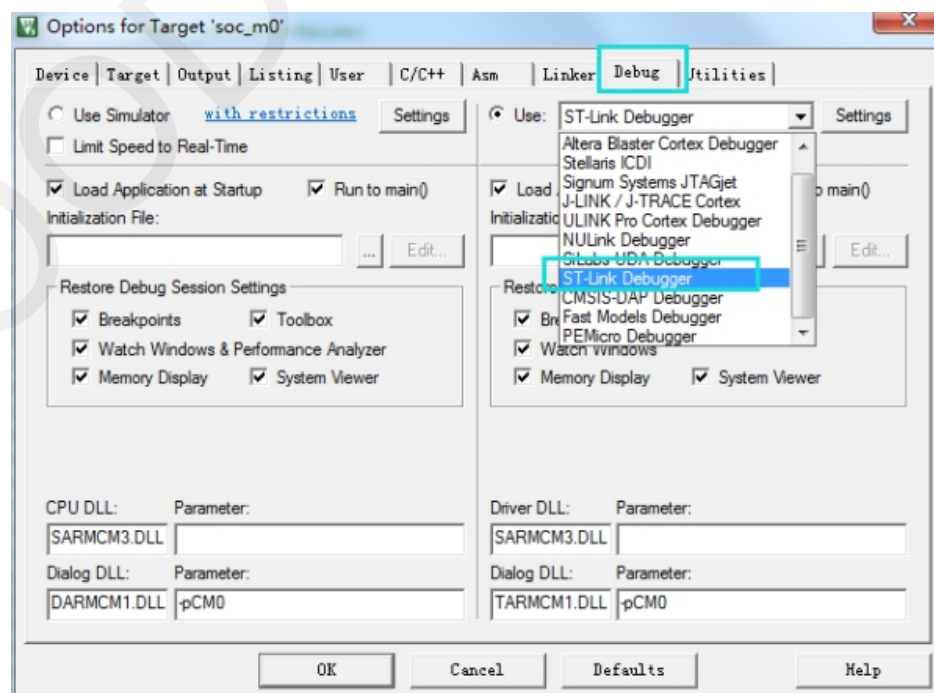

Figure 7 : Emulator Model Selection
5) Keil5 toolbar shown as figure 8, click  when first using the emulator, dialog box as shown in figure 7 appears, select emulator model ST-link in Debug bar and click OK to confirm.